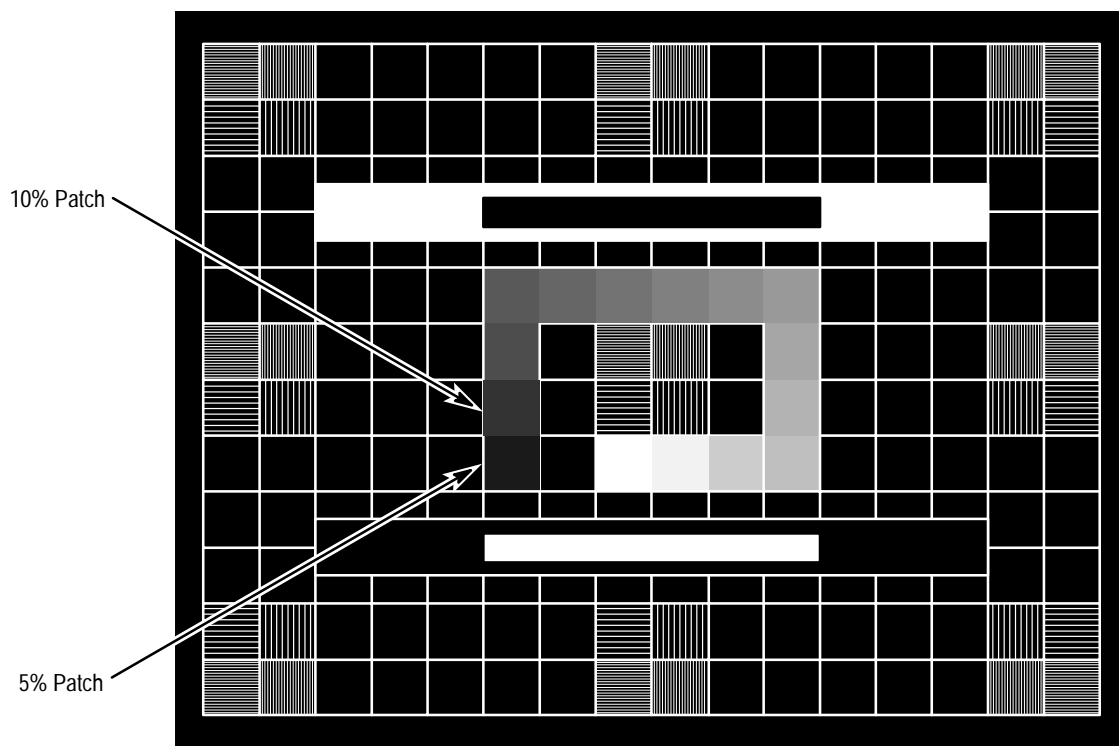

Figure 5–2: Five and Ten Percent Luminance Patches
- Adjust R403 (BRIGHTNESS) until the background raster lines in the 5% luminance patch (see Figure 5–2) just disappear, while the lines in the 10% luminance patch are just visible, when both are viewed through the magnifier.